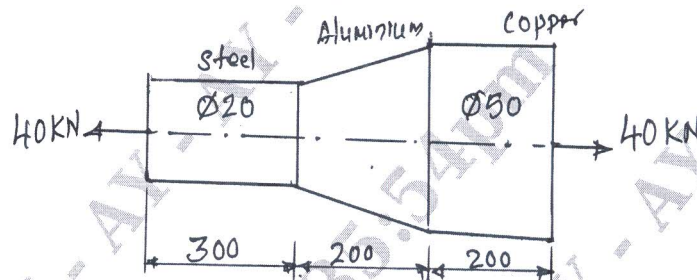

Fig.Q.1(b)
- A stepped bar is subjected to an axial load as shown in Fig.Q.1(b). Determine the change in length of the bar. Take $E = 200\text{GPa}$ for steel, $E = 70\text{GPa}$ for Aluminium and $E = 100\text{GPa}$ for copper. All dimensions are in mm. (08 Marks)